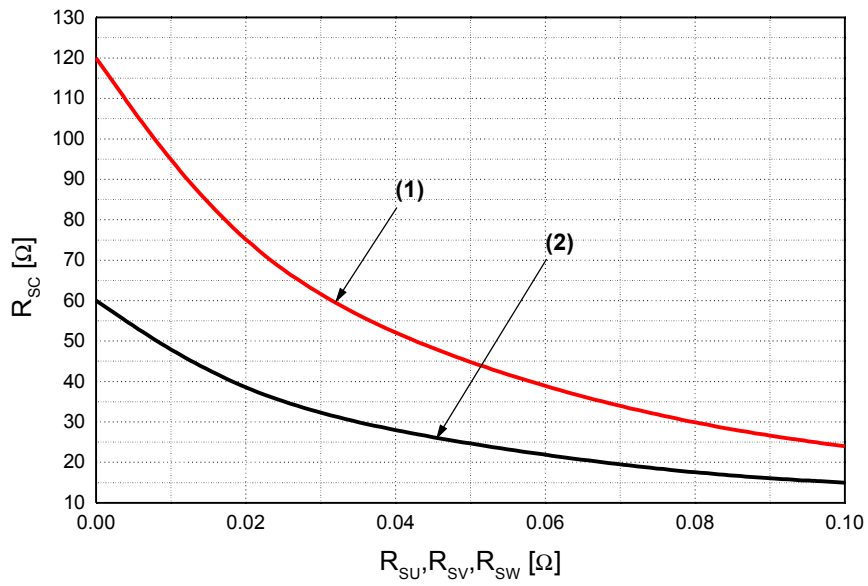

Fig. 7. R_{SC} Variation by change of Shunt Resistors (R_{SU} , R_{SV} , R_{SW}) for Short-Circuit Protection
- Short-circuit current protection is functioning only at the low-sides. It would be recommended that the value of the external sensing resistor (R_{SC}) should be selected around 60 Ω in order to make the SC trip-level of about 22.5A at the shunt resistors (R_{SU}, R_{SV}, R_{SW}) of 0Ω. For the detailed information about the relationship between the external sensing resistor (R_{SC}) and the shunt resistors (R_{SU}, R_{SV}, R_{SW}), please see Fig. 7.